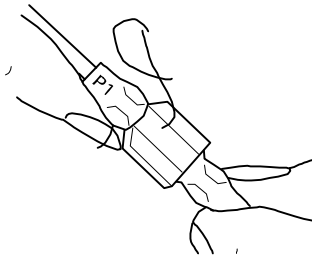

Figure 6 - Connecting P1 Wires
6. Insert the female port, which is on the white power supply wire (marked with P1), into the corresponding male port (marked with P1), (see Figure 6).